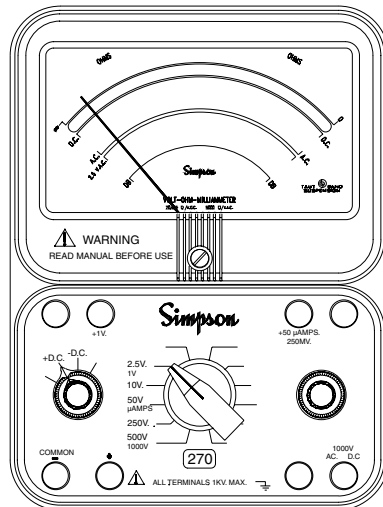

Figure 4-1. Jacks and Switch Positions for Measuring DC Voltages
- a. Set the function switch at +DC (Figure 4-1).
- a. Set the function switch at + DC (Figure 4-1).
- Set the function switch at + DC (Figure 4-1).